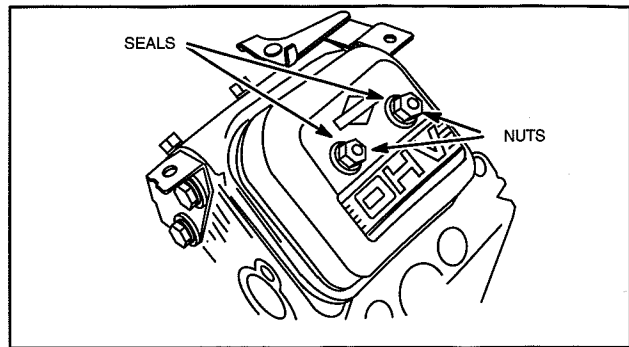

Fig. 27 – Install Valve Covers
3. Install valve covers with new gaskets and valve cover seals, Fig. 27.